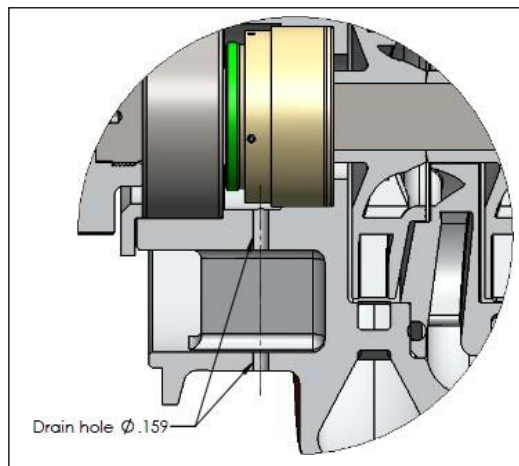

Figure 7: Section view of the drain hole
9. Insert a 0.1592" drill bit in the drill press. Drill through the two walls. See Figure 7.